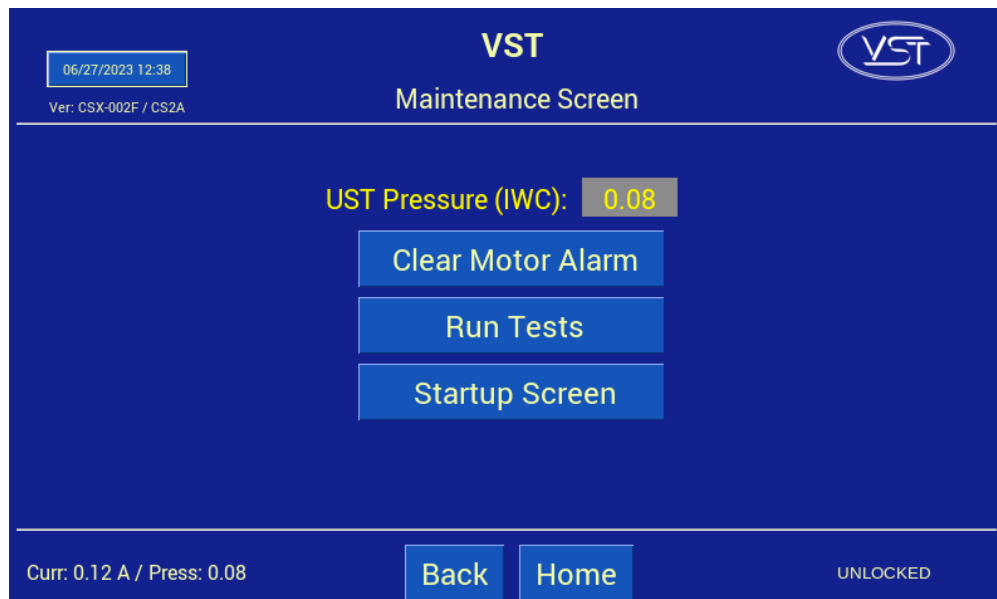

Figure 7-3: Maintenance Screen
1. At the VST Control Panel, make sure the Maintenance Screen is showing on the PLC. **See Figure 7-3.** (The GREEN MACHINE is now in the Manual OFF mode and will not operate.)
1. Press the “Run Tests” button on the Maintenance Screen. **See Figure 7-3.**